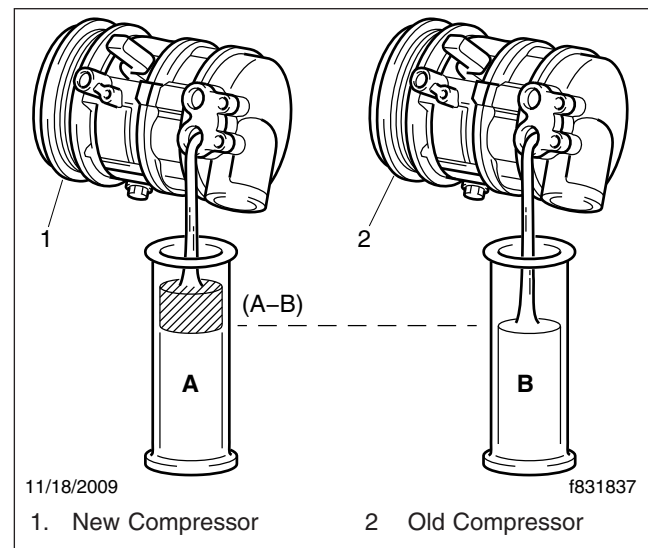

Fig. 1, Oil Balancing
1. Drain the remaining oil from the compressor into a clean graduated container, and note the amount. See Fig. 1.